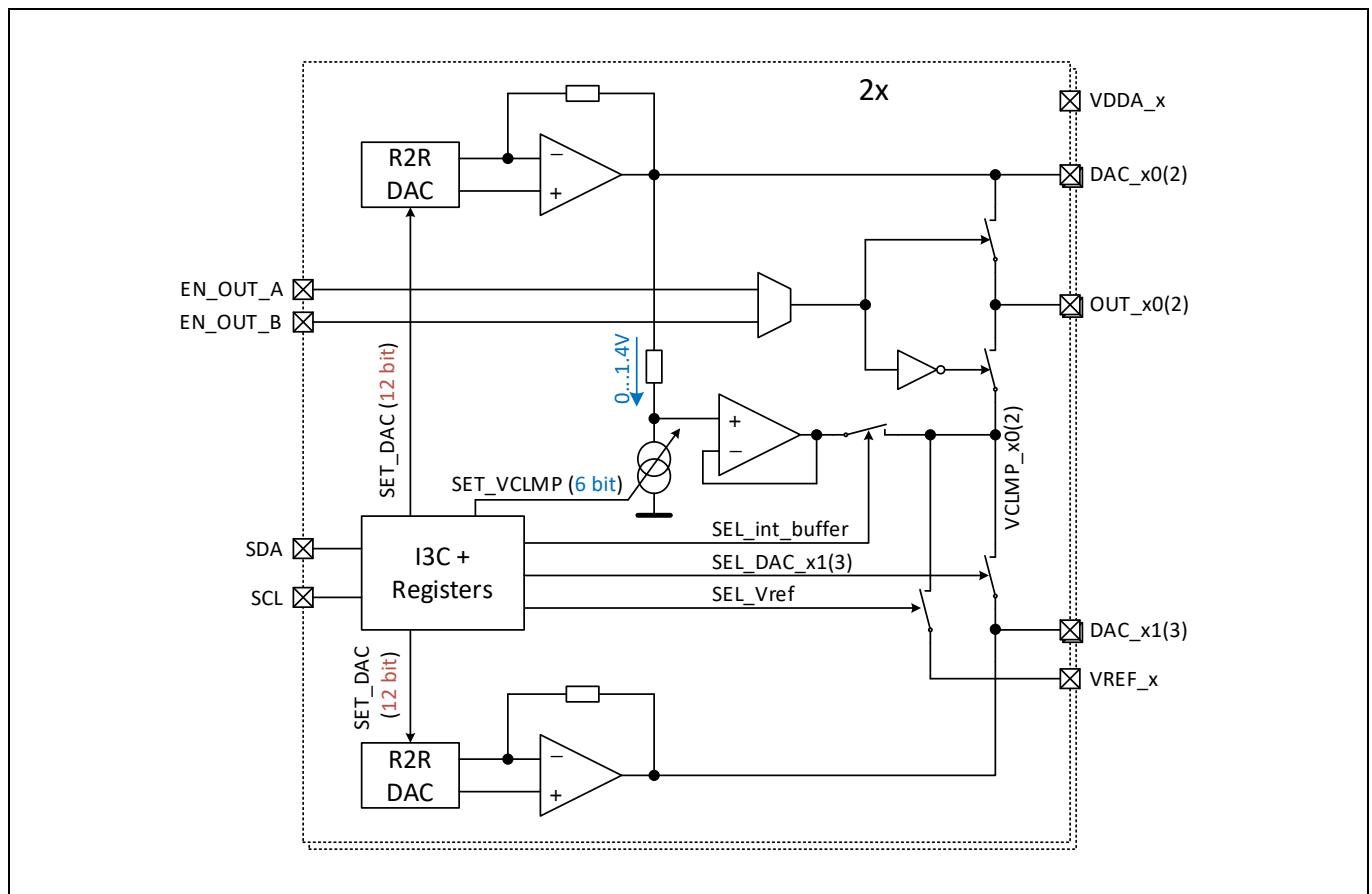

Figure 5 DAC and Bias Switches
The BGMC1210 IC offers 2 independent groups of outputs A and B, each consisting of 4 DACs with separate supply domain per group. Block diagram of one such DAC group is shown on Figure 5 (half is shown for clarity reasons). 2 of the DACs (DAC_x0(2)) are connected to OUT_x0(2) outputs via gate biasing switches for TDD support. Every DAC has a 12 bit resolution, internal reference voltage and can be adjusted in range and offset. Supply range per DAC group is defined by reference potential VREF_x and supply input VDDA_x: ($VDDA_x - VREF_x$). Supply can be selected in voltage range from -8...0V up to 0...8V, so that enhancement type LDMOS transistors as well as depletion type GaN transistors are supported.